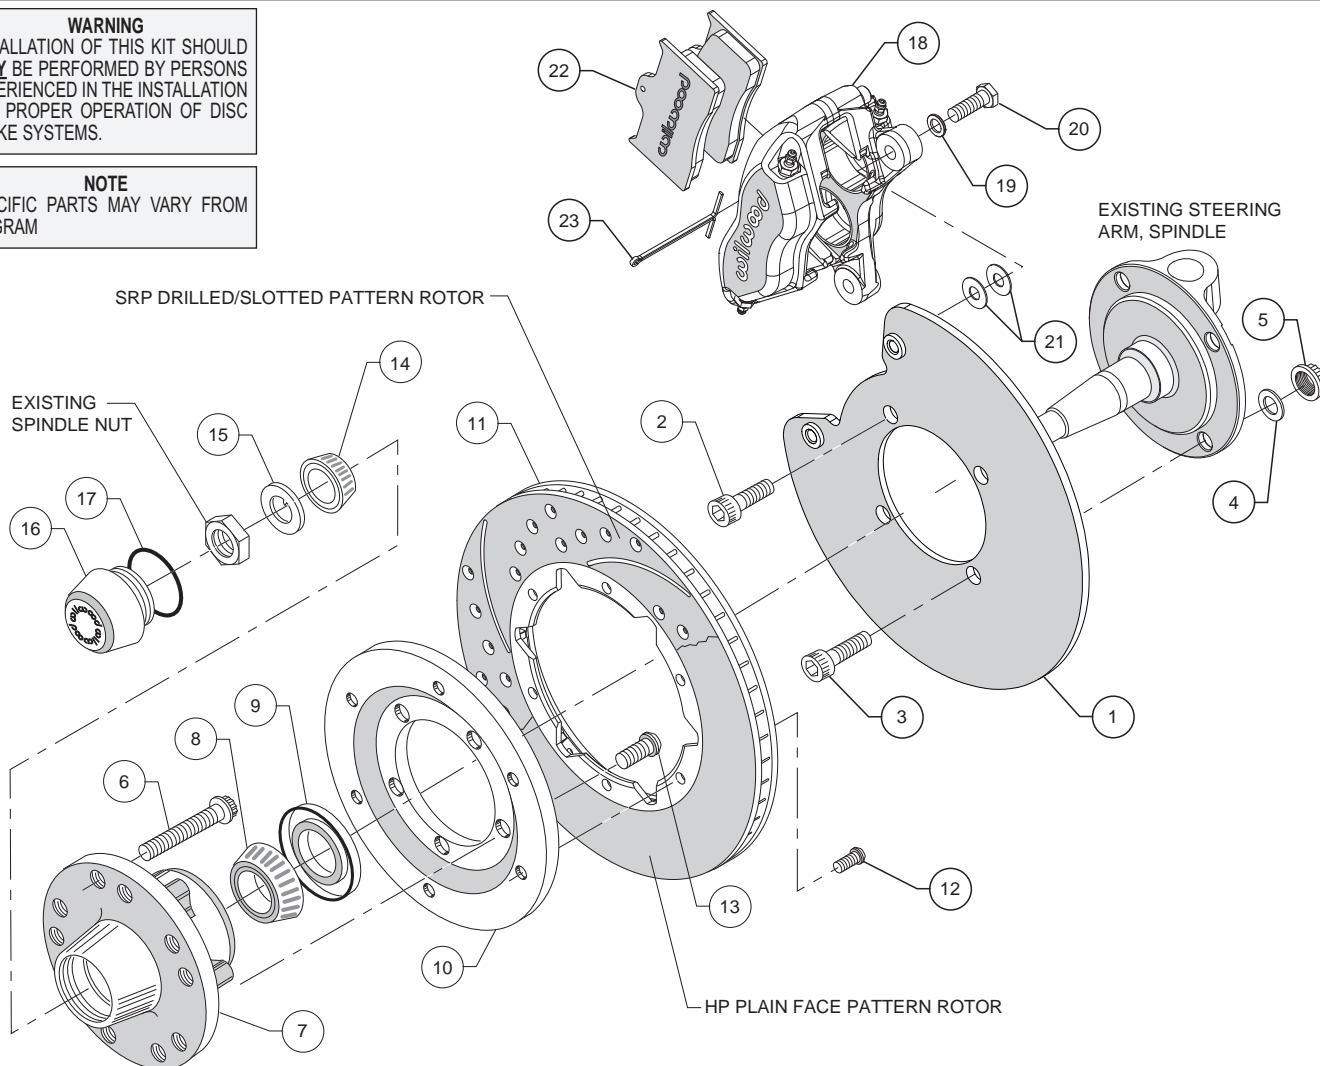
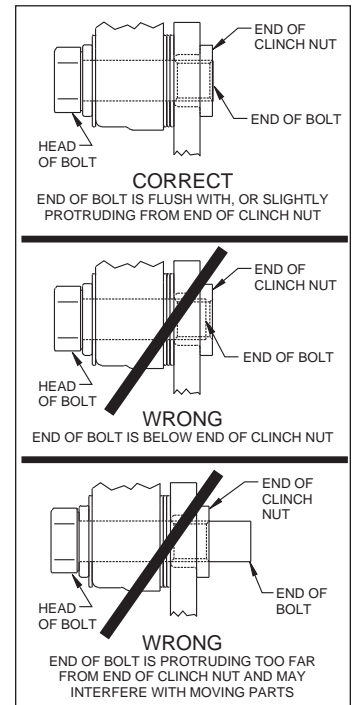

Figure 1. Typical Installation Configuration
Figure 3. Clinch Nut Engagement Diagram
**Assembly Instructions** (numbers in parenthesis refer to the parts list, on the preceding page and Figure 1): **CAUTION:** All mounting bolts must fully engage clinch nuts. Be sure to check that all bolts are either flush or protruding through flanged side of clinch nut after shimming, Figure 3.
- Orient the caliper mount bracket (1) as shown in Figure 1. Install using bolts (2) threaded into the steering arm and bolts (3), washers (4), and locknuts (5), Figure 1. Ensure that the flanged heads of the clinch nuts in the bracket are facing outboard, Figure 1. Temporarily tighten the mounting bolts. **NOTE:** The bracket must fit squarely against the mounting points on the spindle. Inspect for interference from casting irregularities, machining ridges, burrs, etc. Torque locknuts (5) to 65 ft-lb. Apply red *Loctite*® 271 to the threads of bolts (2) and torque to 80 ft-lb.
- Install the grease seal (9) by pressing into the backside of the hub (7), flush with the end of the hub, Photo 3.
- Orient the rotor (11) and the rotor adapter (10) as shown in Figure 1 and Photo 4. Attach the rotor to the adapter using bolts (12). Using an alternating sequence, apply red *Loctite*® 271 to the threads, and torque to 25 ft-lb.
- Mount the adapter/rotor assembly (10/11) to the hub (7) using bolts (13), as shown in Figure 1 and Photo 5. Using an alternating sequence, apply red *Loctite*® 271 to the threads, and torque to 45 ft-lb.
- NOTE:** Please reference the caution statement at the beginning of the assembly instructions. Mount the caliper (18) onto the caliper mounting bracket (1) using bolts (20) and washers (19), as shown in Figure 1. Initially place two .035" thick shims (21) on each bolt between the caliper and the bracket, Photo 8. Temporarily tighten the mounting bolts and view the rotor (11) through the top opening of the caliper. The rotor should be centered in the caliper, Photo 9. If not, adjust by adding or subtracting shims between the bracket and the caliper. Always use the same amount of shims on each of the two mounting bolts. **NOTE:** The end of each bolt must be flush with or slightly protruding from the head of the clinch nut, as shown in Figure 3. If necessary place spare shims between washer (19) and caliper mounting ear to achieve the proper clinch nut engagement. Once the caliper alignment and clinch nut engagement are correct, remove the bolts one at a time, apply red *Loctite*® 271 to bolt threads, and torque to 40 ft-lb..